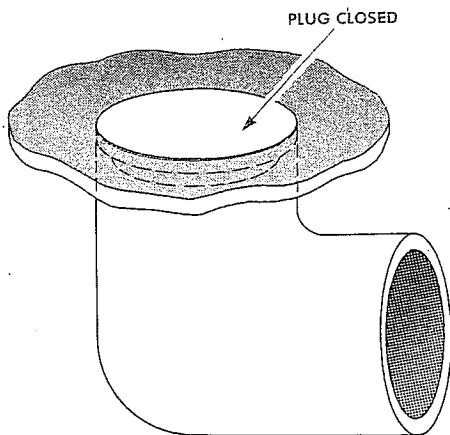
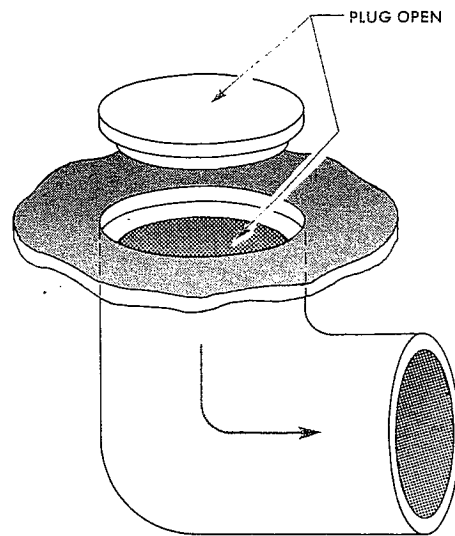

Figure 5-32. A closed plug will stop water from draining out.
Figure 5-33. An open plug lets the water drain out.
*Valves.* The valves in an engine work much like a plug in the bottom of a sink or bathtub. When the plug or stopper is pushed into the hole, Figure 5-32, water cannot get out. If we pull the plug up out of its hole, water can get around it and down the pipe as shown in Figure 5-33.